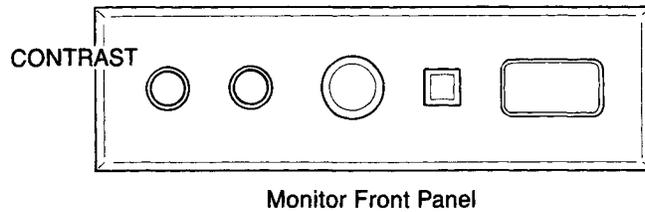

Fig. 10-8. The Contrast Control
2. Adjust the front panel's CONTRAST control (Fig. 10-8) to obtain the best display contrast.